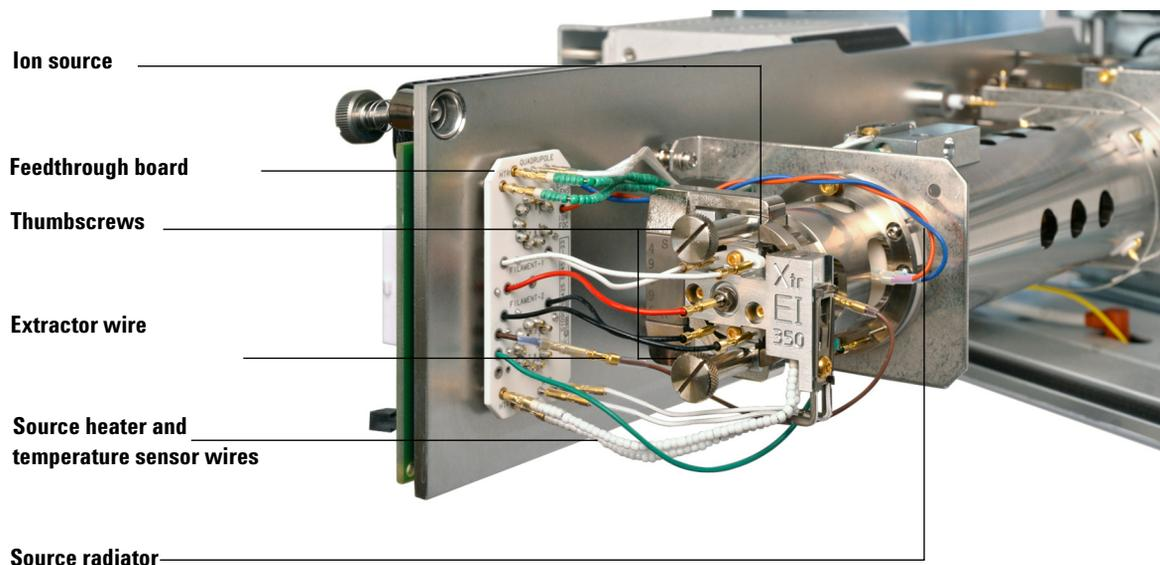

Figure 12 Removing the Extractor ion source
- If you are using an extractor ion source, disconnect the eight wires from the ion source. Do not bend the wires any more than necessary (See Figure 12 on page 98).